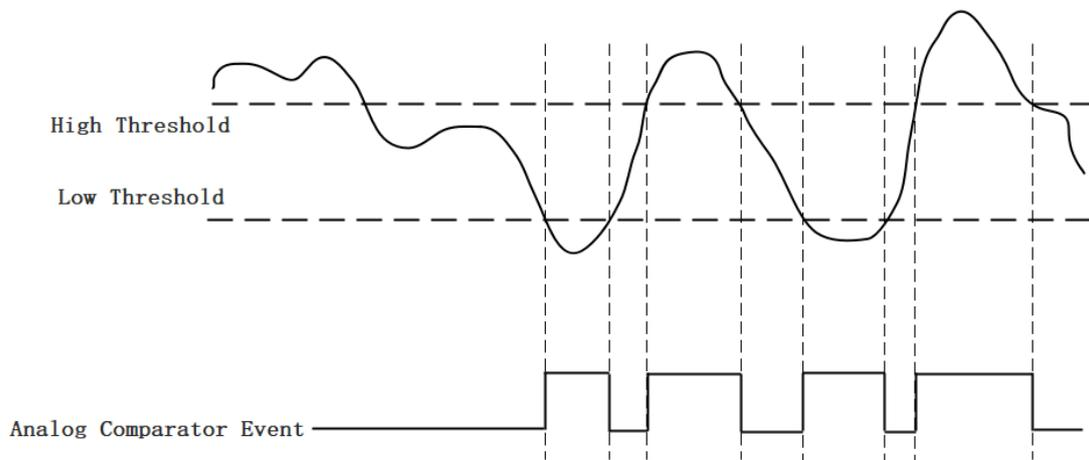

Figure 20 Leaving Window Trigger
*Leaving Window Trigger:* The window comparator output is high when the signal leaves the window defined by the *Low Threshold* and *High Threshold*. The output will change to low when the signal enters the window as shown in Figure 20 Leaving Window Trigger.